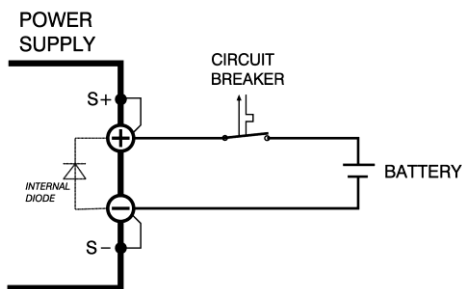

Figure 7.14: Charging battery with a circuit breaker in series to protect the internal diode.
- Use a Circuit Breaker in series to protect the power supply from accidental reverse connection, see Figure 7.14.